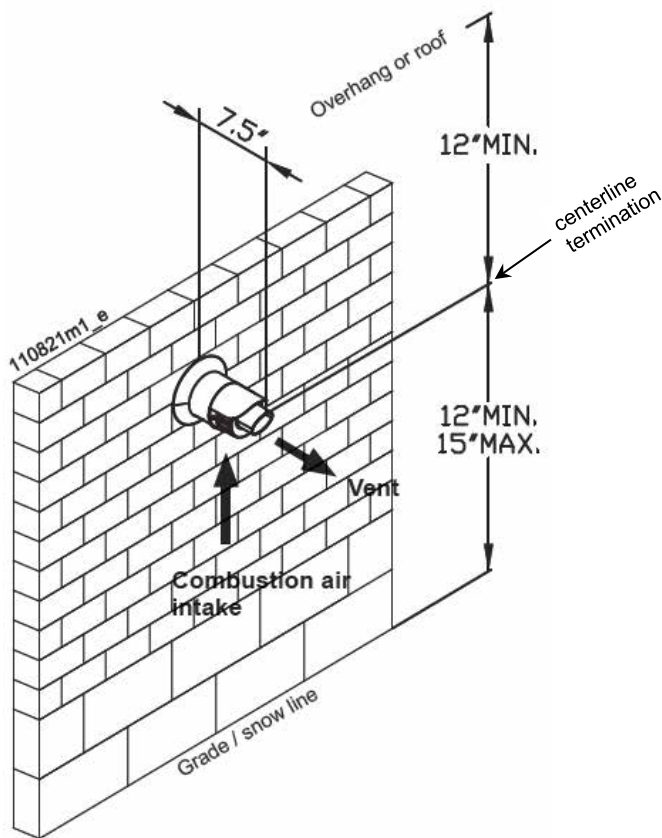

Figure 9-15
Description and usage: concentric combustion air and exhaust vent pipe termination. Both combustion air and exhaust vent pipes must attach to the termination kit. The termination kit must terminate outside the structure and must be installed as shown below in Figure 9-15. The required combustion vent pipe materials are listed in Table 9-5 of this manual.
- Determine the best location for the termination kit (see Figure 9-15).
NOTICE	Ensure termination location clearance dimensions are as shown in Figure 9-15.